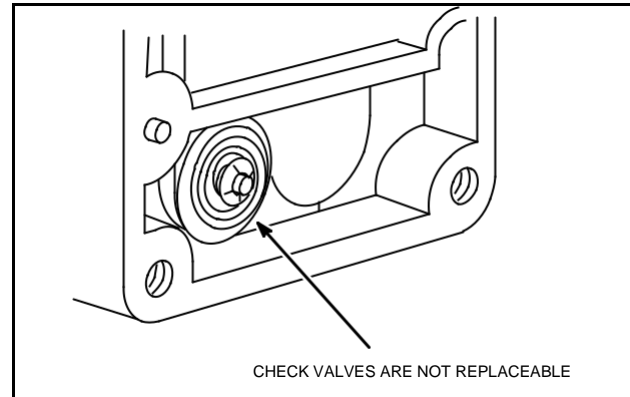

Fig. 32 – Assemble Check Valves
**NOTE:** Check valves are not replaceable, Fig. 32.